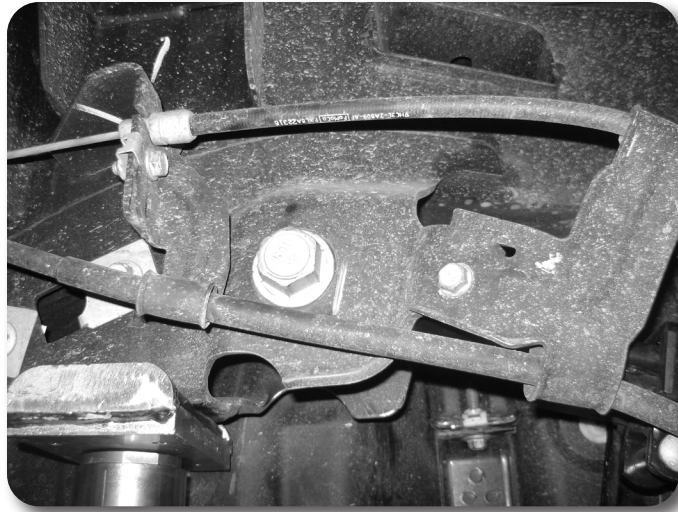

Figure 28
22. Remove cables from the rear bracket that attaches just behind the front leaf spring mount, remove bracket, it will not be reinstalled. Figure 28